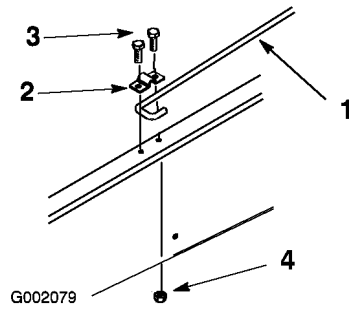

Figure 10
6. Loosen the bolt securing the prop rod clip to the frame until you can slide the J-hook end of the prop rod under the clip (Figure 10).
- Tighten the bolt and secure the other side of the clip with a new bolt (5/16 x 3/4 inch) and flange nut (5/16 inch) (Figure 10).